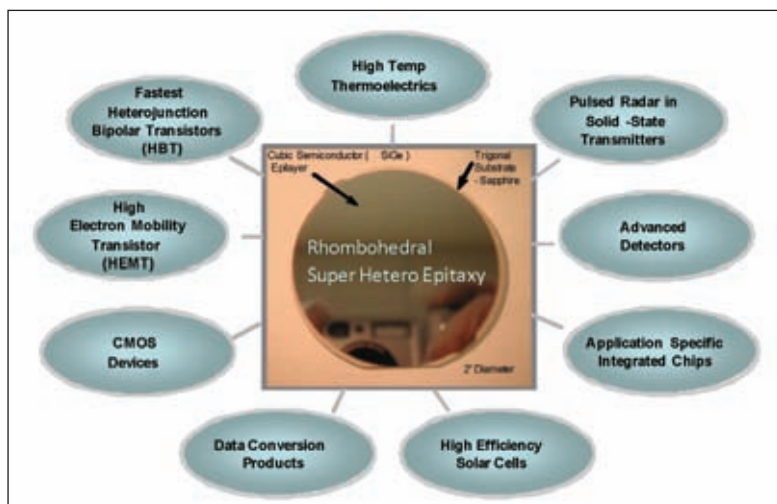

Figure 3. Applications of rhombohedral semiconductors on trigonal crystals
Rhombohedral semiconductors on trigonal substrates can improve the following products: Ultra fast Complementary Metal Oxide Semiconductor (CMOS) chipsets; Hetero-junction Bipolar Transistors (HBT); Thermo-Electric (TE) device; photo-voltaic solar cell device; advanced detectors; high frequency high power transmitters; and others as shown in Figure 3.